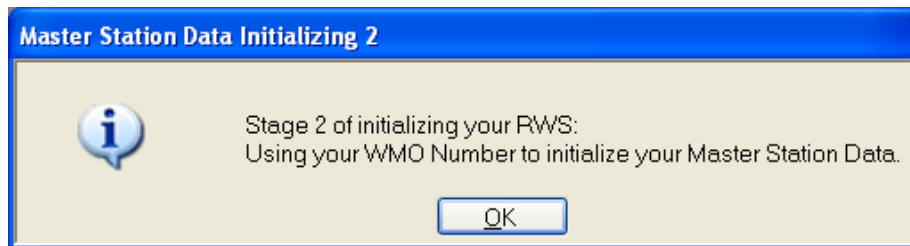

Figure A-14: Master Station Data Initializing 2 Window
- Click **OK** to dismiss the *Warning* window. RWS will open with the *Master Station Data Initializing 2* window to indicate the Station WMO Number was used to initialize Master Station Data (Figure A-14).